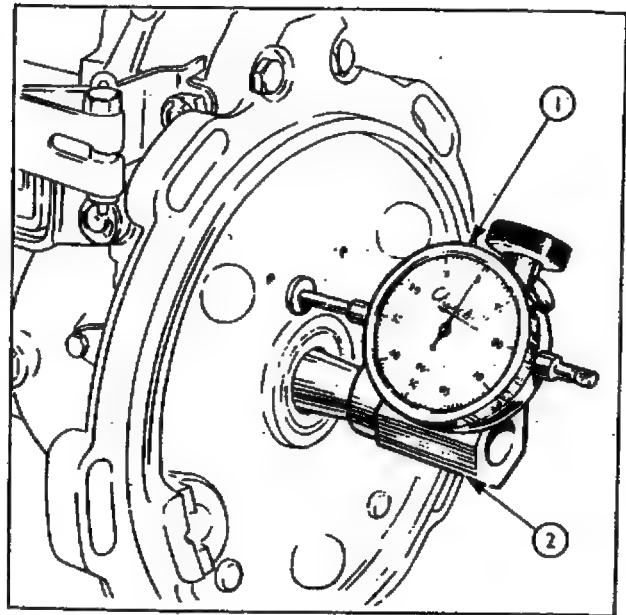

Fig. 22
11. It is advisable to check the camshaft endfloat at this stage so that the thickness of shim behind the camshaft bearing inner races may be adjusted, if necessary, when reassembling. Use adaptor, Tool No. CT.9017-1, in conjunction with dial gauge, Tool No. 9017, by screwing the adaptor onto the threaded end of the camshaft and measure the end-float in relation to the pump housing (see Fig. 22).